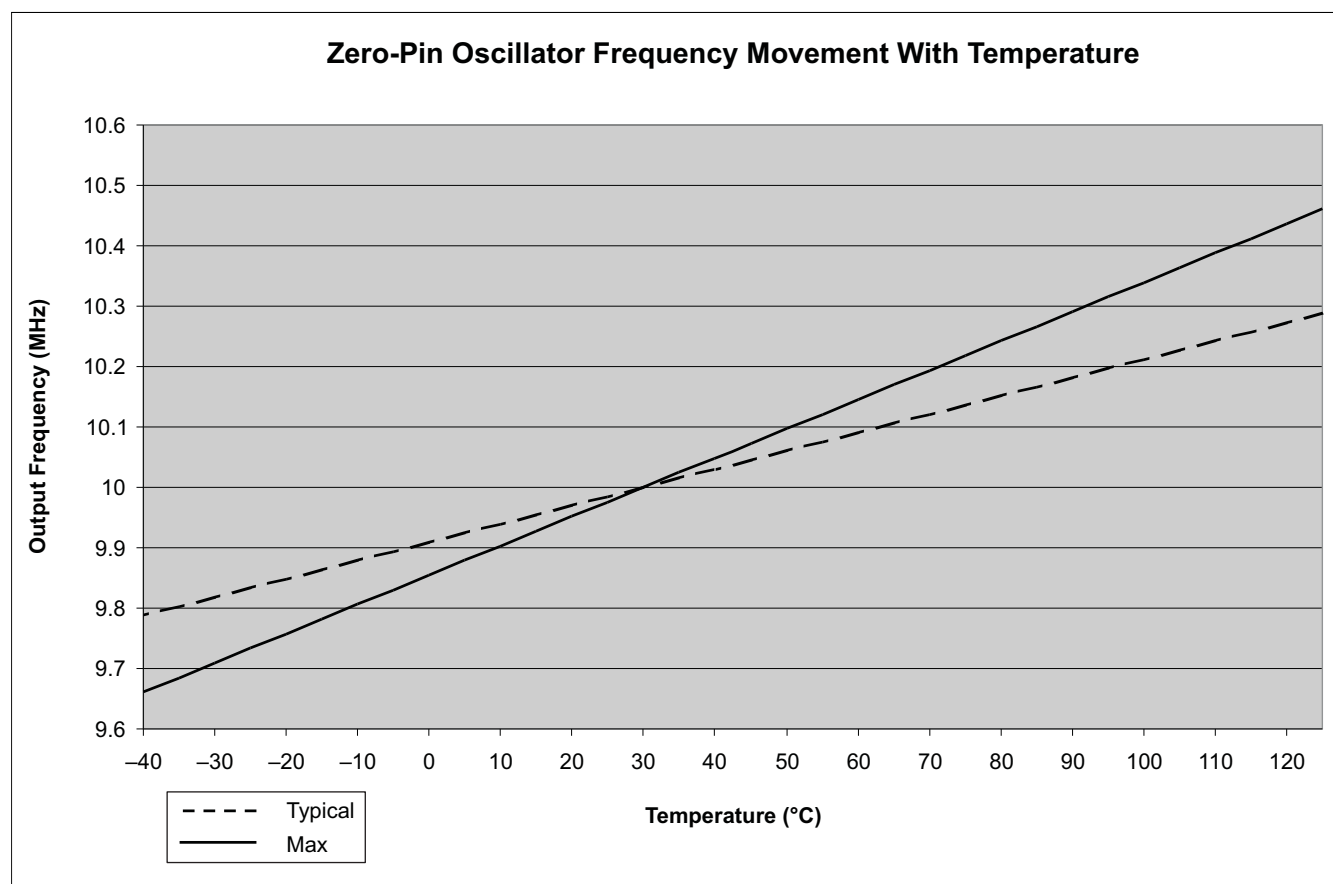

Figure 6-6. Zero-Pin Oscillator Frequency Movement With Temperature
- (1) In order to achieve better oscillator accuracy (10 MHz $\pm$ 1% or better) than shown, refer to the oscillator calibration example in *2803x C/C++ Header Files and Peripheral Examples* (literature number SPRC892), and the *Oscillator Compensation Guide Application Report* (literature number SPRAB84). Refer to Figure 6-6 for TYP/MAX values.
- (2) Frequency range ensured only when VREG is enabled, VREGENZ = V_{SS}.
- (3) Output frequency of the internal oscillators follows the direction of both the temperature gradient and voltage (V_{DD}) gradient. For example: